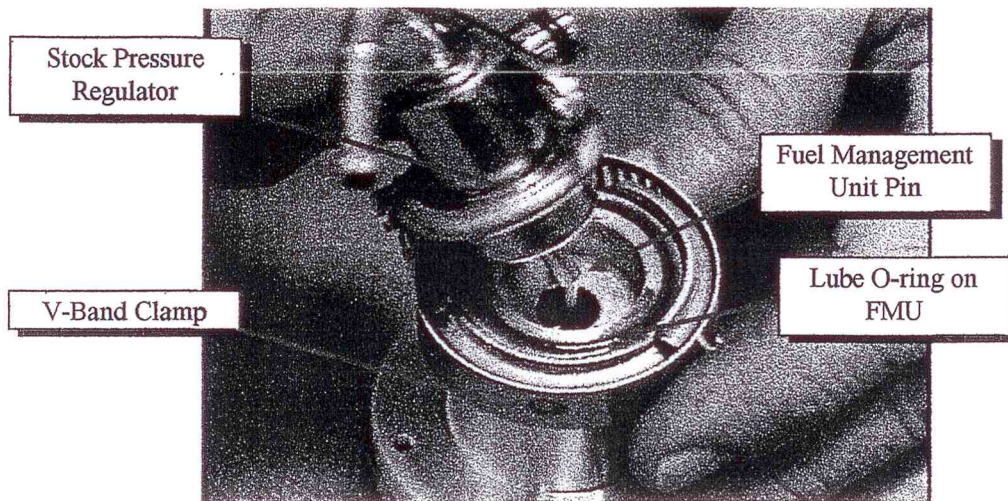

FIGURE 9
19. At the workbench, wipe the stock fuel pressure regulator clean. Install the supplied V-band clamp over the FMU. Install the stock fuel pressure regulator on to the FMU by inserting the extended pin straight into the vacuum port on the stock fuel pressure regulator until it bottoms out. Do not force the pin in any way. **DO NOT** drop the FMU or otherwise bend the pin which extends from the FMU. Correct alignment of the pin is absolutely critical for proper operation. See **Figure 9**.